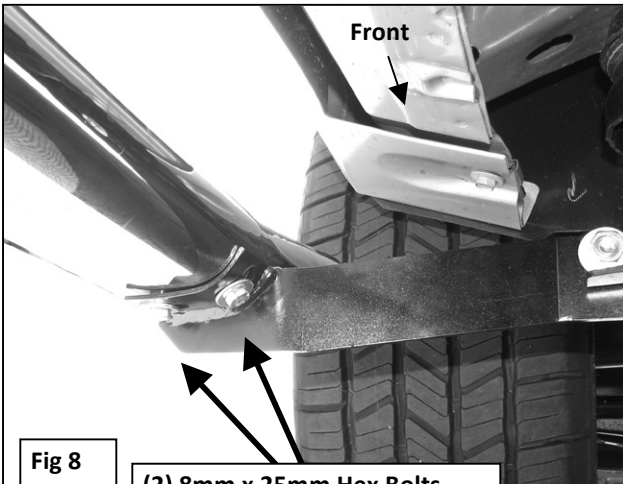

Fig 8
7. Carefully position the Driver Sidebar onto the Mounting Brackets. Attach the Sidebar to the Mounting Brackets with (6) 8mm x 25mm Hex Bolts, (6) 8mm Lock Washers and (6) 8mm Flat Washers, (**Figure 8**). Do not tighten hardware at this time.